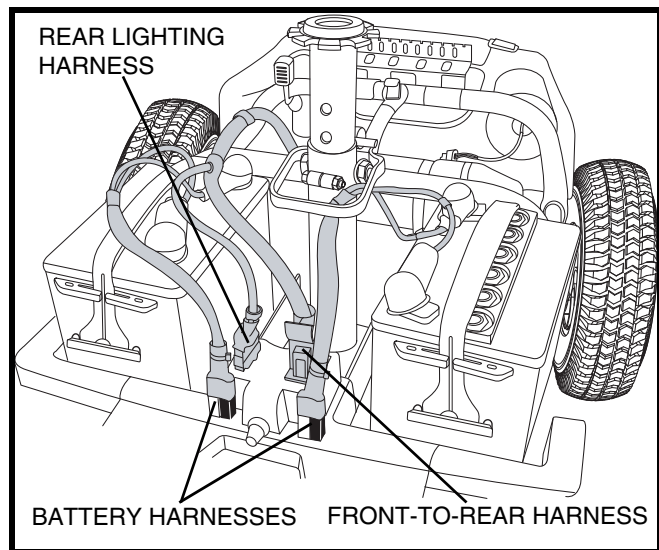

Figure 22. Harness Connections
6. Unplug both battery harnesses. Pull each harness straight up. **See figure 22.**
6. Connect the front-to-rear harness, rear lighting harness and both battery harnesses. See figure 22.